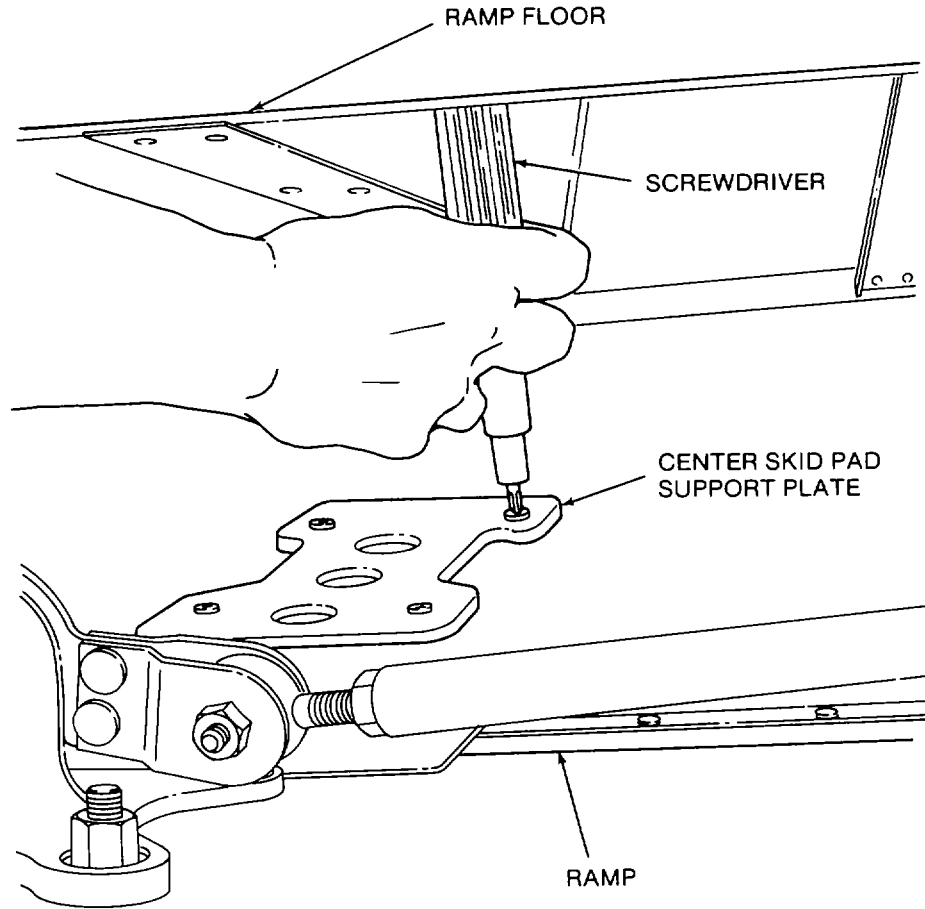

Figure 2-13. Screwdriver Location to Hold Center Skid Pad Screw Head
Step 2-9a.(1) will require two persons. Also, it requires that the screw heads be fully cleaned of any dirt, etc., in order to prevent slippage due to the awkward position.
(1) One person must clean screw heads and hold the screwdriver (Figure 2-13) while resting on the ramp floor. At the same time, the second person must be under the ramp using a suitable wrench to remove the nuts securing the center skid pad. Retain the hardware removed for reuse during the installation procedure.
(1) Refer to steps 2-9a. and 2-9a.(1) and Figure 2-13 to gain access to screw locations.